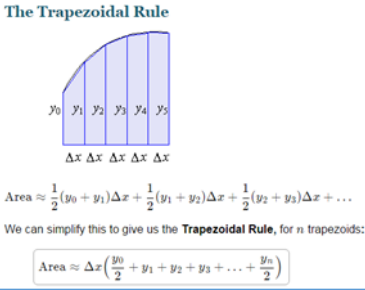

Figure 15 Trapezoidal Rule
- ii Evaluate total area below 0 volt by using Trapezoidal Method Area Calculation (refer to Figure 15)